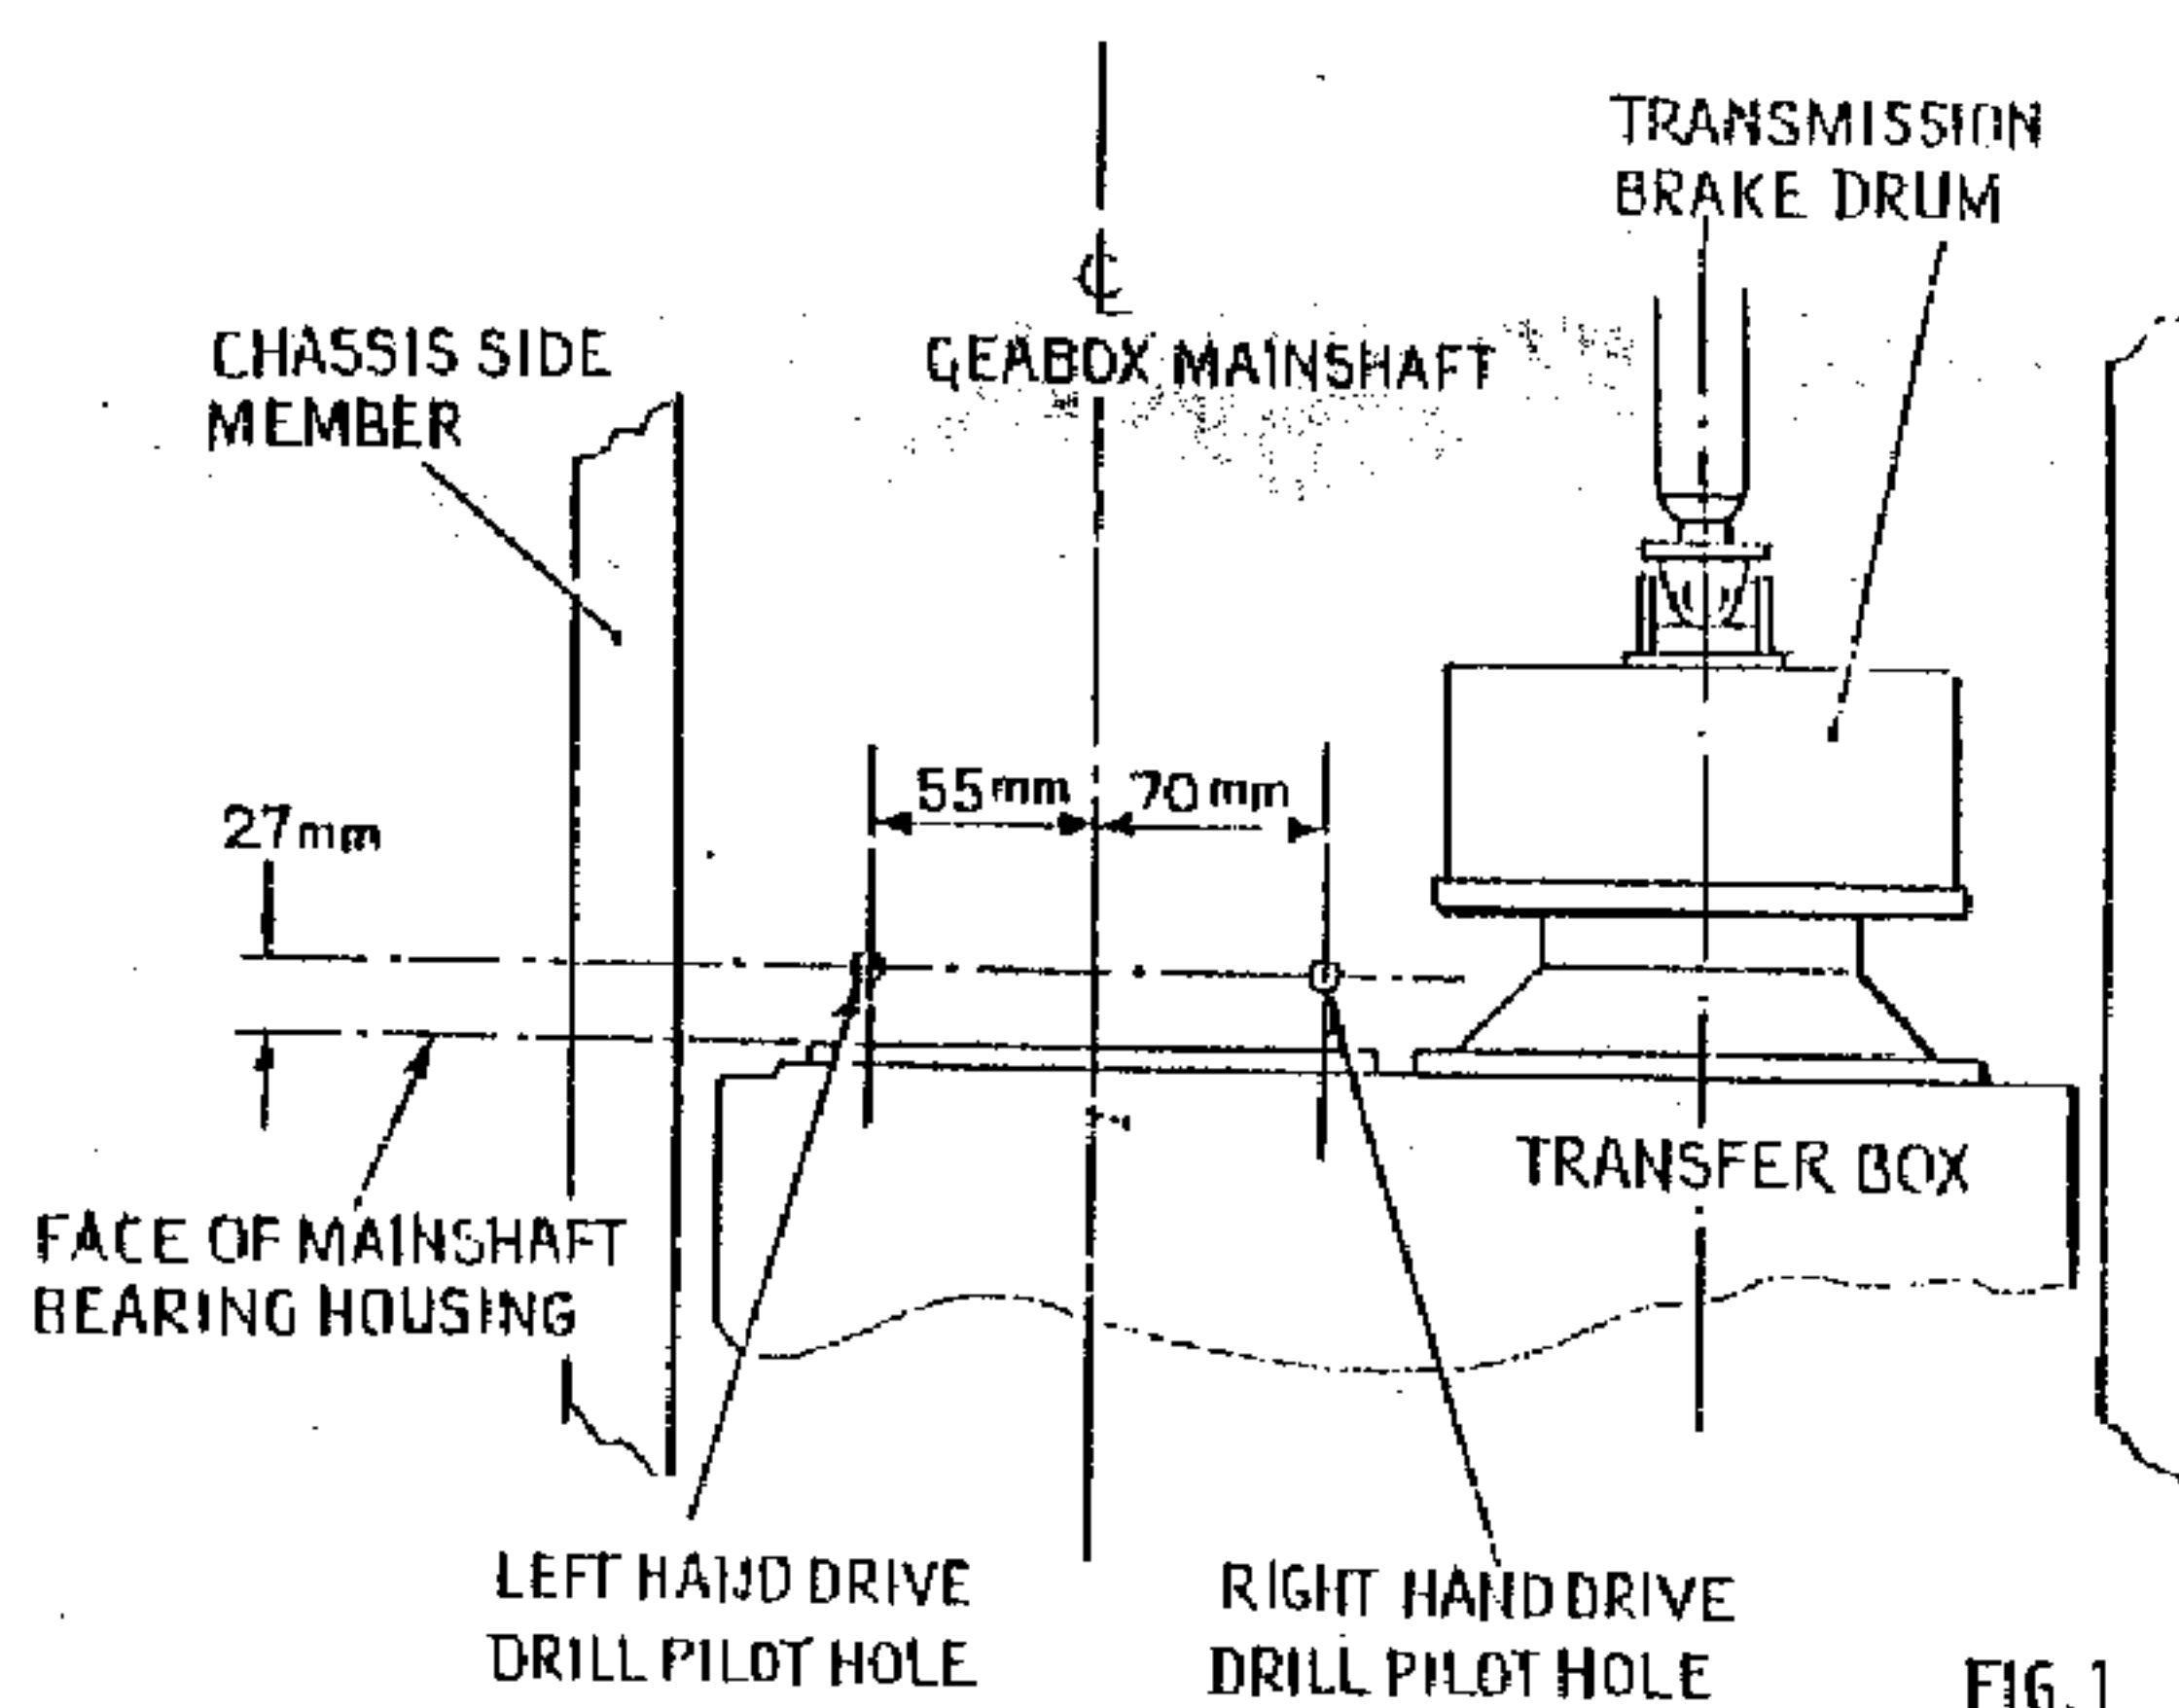

FIG. 1
6. From underneath, (see Fig. 1), centre punch and drill a pilot hole, 1/16" dia, through the floor of the vehicle in the position appropriate to whether the vehicle is either left or right hand drive.
7. **RIGHT HAND DRIVE VEHICLES** From inside the vehicle drill a 50.8 mm (2") dia. hole in the floor, 87 mm (3-7/16") to the right of the pilot hole. (see Fig 1)
8. **LEFT HAND DRIVE VEHICLES** Drill a 50.8 mm (2") dia hole using the Pilot Hole as the centre. (see Fig. 1)